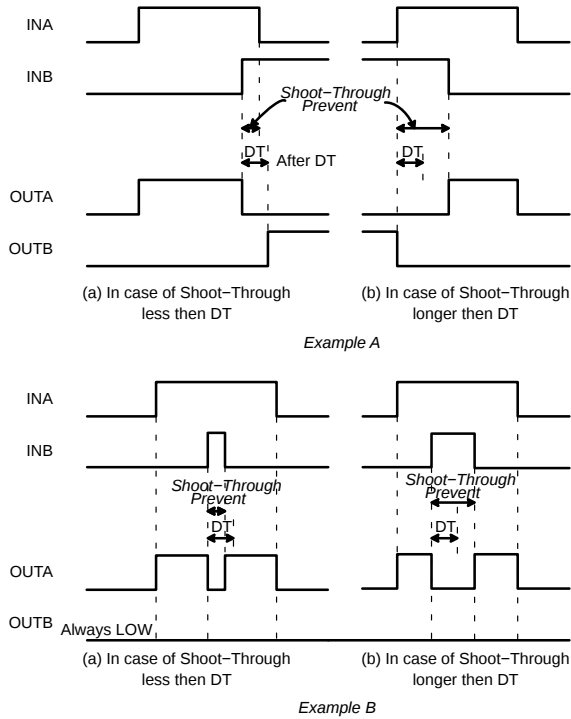

Figure 49. Concept of Shoot-Through Prevention
The cross conduction prevents both high- and low-side switches from conducting at the same time when the dead time (DT) control mode is in half-bridge type, as shown in Figure 49.